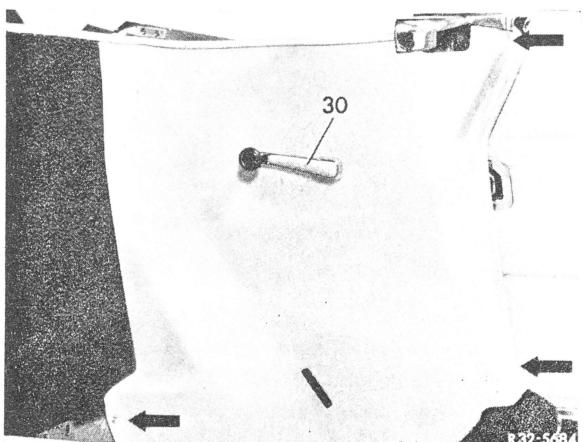

Fig. 3
- 6 Remove softtop cover flap locking lever (30) and unscrew trim panel (see arrows in Fig. 3).